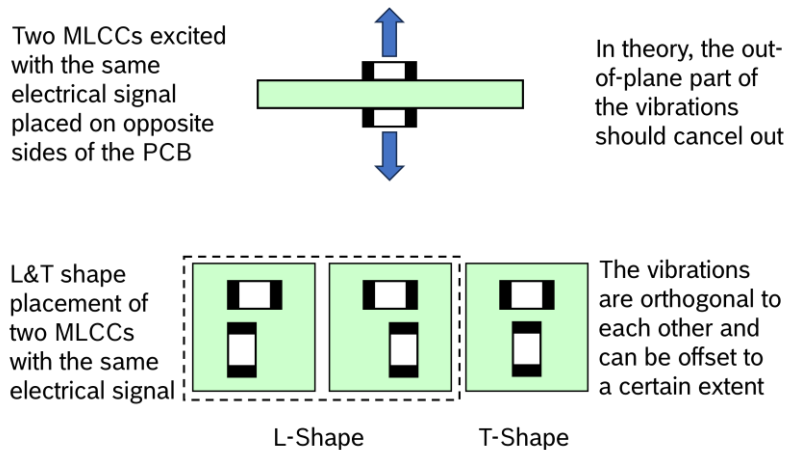

Figure 7: Placement of MLCCs to significantly reduce vibration
- When placed in an L-shape or T-shape layout configuration, the vibrations of the two MLCCs are orthogonal to each other and provide a certain level of cancellation. See Figure 7.